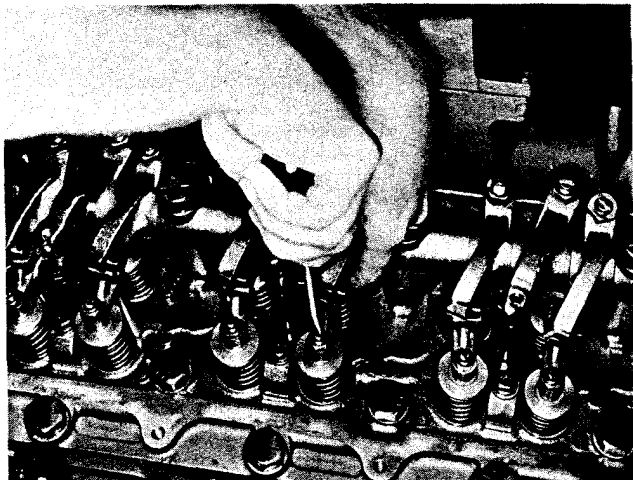

Fig. 2-40, (V51490). Adjusting crossheads
3. Turn down crosshead adjusting screw until it touches valve stem. Fig. 2-40.